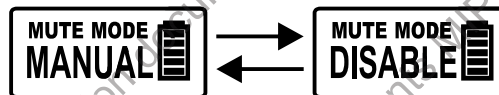

Fig. 23
- (C) MUTE MODE Setting. Fig. 23:
- (1) Select MANUAL or DISABLE.
- (2) MANUAL: Use MUTE button to mute/unmute.
- (3) DISABLE: MUTE button is disabled. Mute setting is canceled.